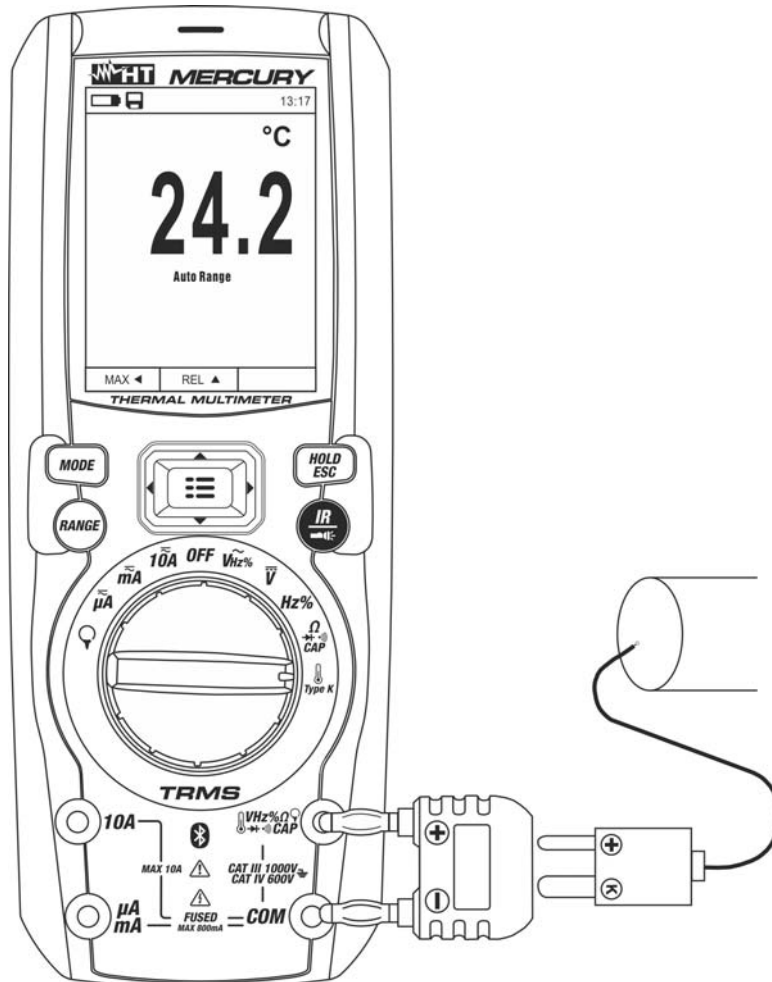

Fig. 27: Use of the instrument for Temperature measurement
3. Insert the provided adapter into input terminals (polarity +) and **COM** (polarity -) (see Fig. 27).